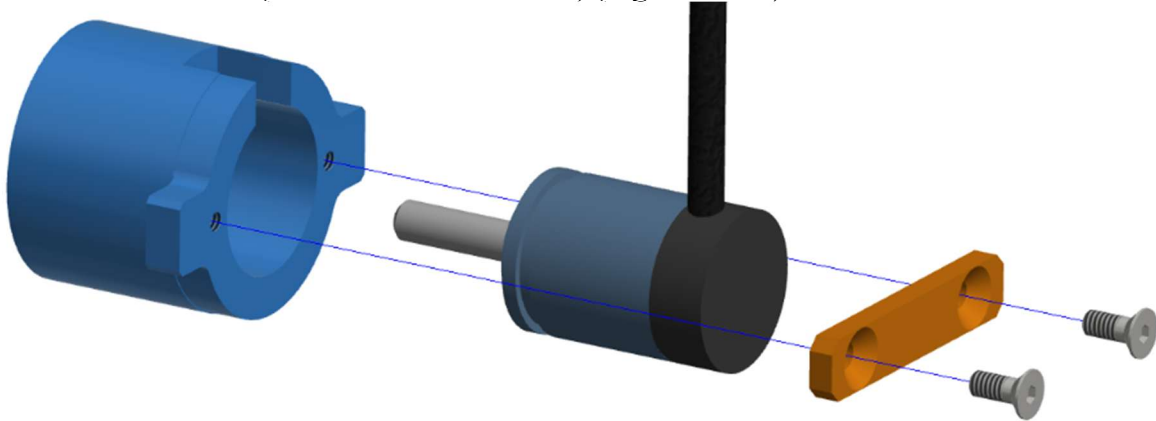

Figure 10-35. Remove the two M2 X 0.4 X 5 LG. FHCS from the Z-Axis Potentiometer Clamp and Inner Mount (474-5832 and 474-5831)
10.2.31 Remove the two M2 X 0.4 X 5 LG. FHCS from the Z-Axis Potentiometer Clamp and Inner Mount (474-5832 and 474-5831) (Figure 10-35).